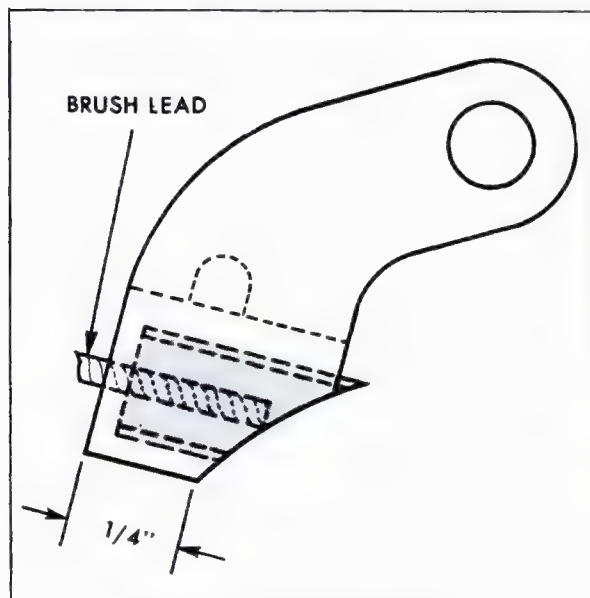

Fig. 6-41 Maximum Brush Wear
2. Inspect brushes for excessive wear and brush pigtails for signs of fraying, Fig. 6-41.
The brushes may be allowed to wear until part of the holder itself is actually worn away as shown in Fig. 6-41. This will not damage the slip rings or affect performance. The brushes should not be allowed to wear beyond the 1/4 inch dimension shown in Fig. 6-41. Replacement is accomplished by installing a new holder, brush, lead, and terminal assembly. Note that there are both right and left hand holders and springs. Both brush holders should be to the right of their pivot pin as viewed from the outside of the slip ring end frame.